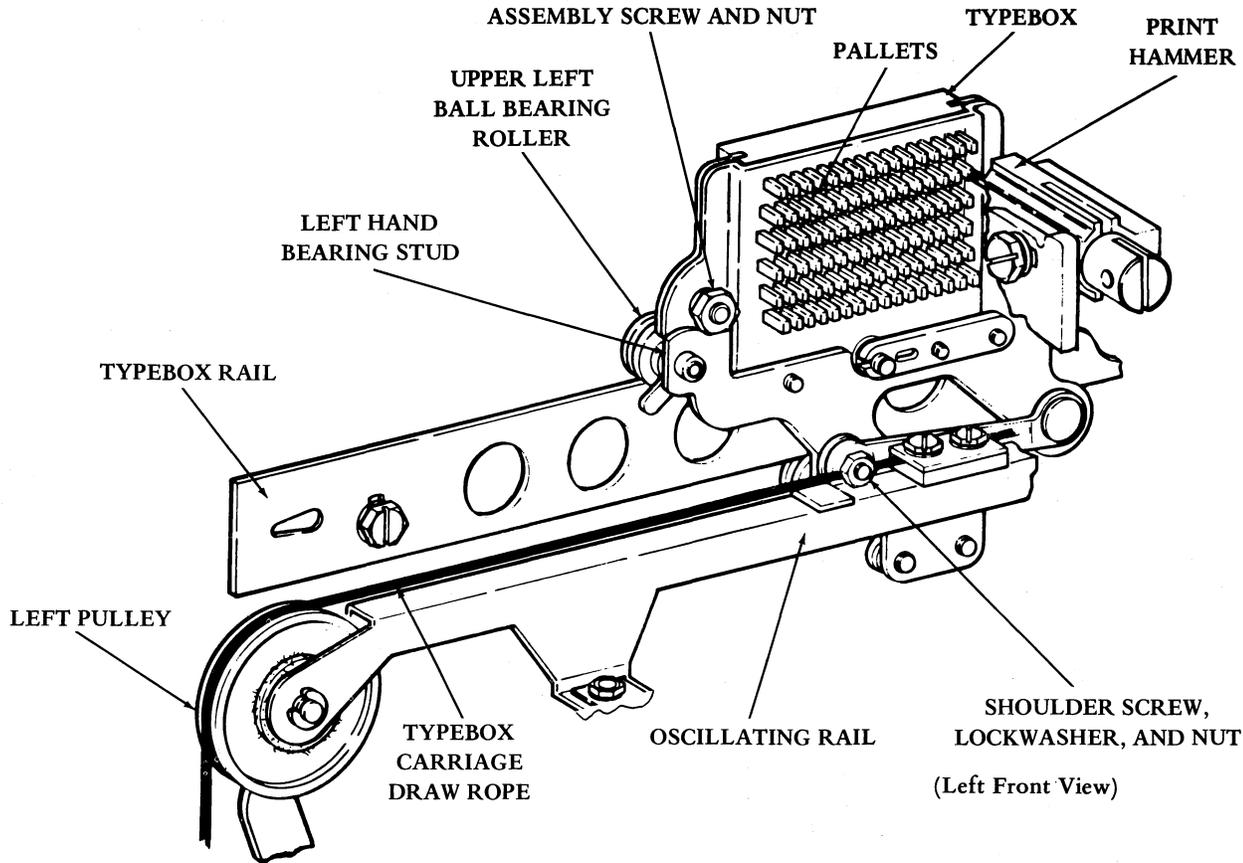

Figure 4 - Typebox, Typebox Carriage and Oscillating Rail
2.02 To remove the typebox from the carriage (Figure 4), trip the typebox latch toggle to the right. Lift the right end of the typebox up to an angle of 45 degrees, and pull the typebox toward the right to disengage it from the left hand bearing stud.
2.03 If it is necessary to replace the pallet or pallet spring TP157238, the typebox must be disassembled (Figure 4). The method used is as follows.
2.04 After replacing the pallet or pallet spring TP157238, the typebox must be reassembled (Figure 4). The method used is as follows.
2.05 To replace the typebox (Figure 4), reverse the procedure used for removal.
2.06 To remove the typebox carriage from the unit proceed as follows (Figure 4).
2.07 To replace the typebox carriage (Figure 4), reverse the procedure used for removal. Check Carriage Roller adjustment.